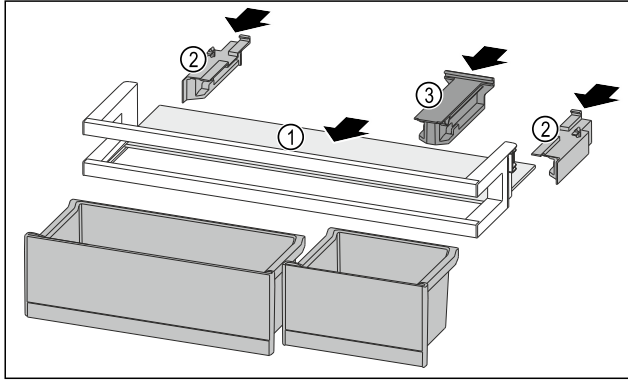

Fig. 231
- ▶ Push the shelf Fig. 231 (1) into the side recesses.
- ▶ Insert the side parts Fig. 231 (2).
- ▶ Insert the holding part Fig. 231 (3).